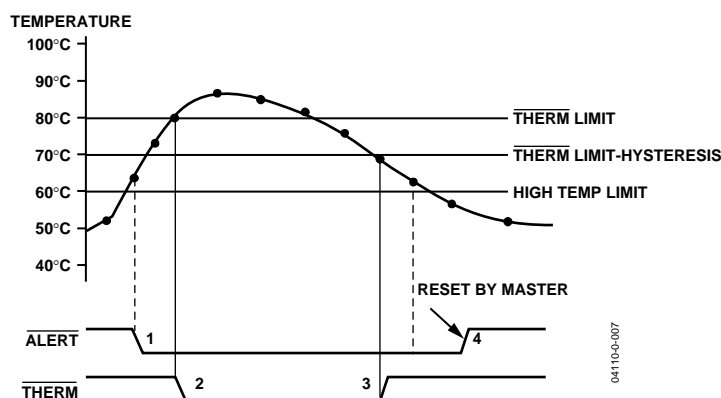

Figure 21. Operation of the $\overline{\text{ALERT}}$ and $\overline{\text{THERM}}$ Interrupts
Figure 21 shows how the $\overline{\text{THERM}}$ and $\overline{\text{ALERT}}$ outputs operate. A user may choose to use the $\overline{\text{ALERT}}$ output as an SMBALERT to signal to the host via the SMBus that the temperature has risen. The user could use the $\overline{\text{THERM}}$ output to turn on a fan to cool the system, if the temperature continues to increase. This method would ensure there is a fail-safe mechanism to cool the system without the need for host intervention.
3. The $\overline{\text{THERM}}$ output deasserts (goes high) when the temperature falls to $\overline{\text{THERM}}$ limit minus hysteresis. The default hysteresis value of 10°C is shown in Figure 21.